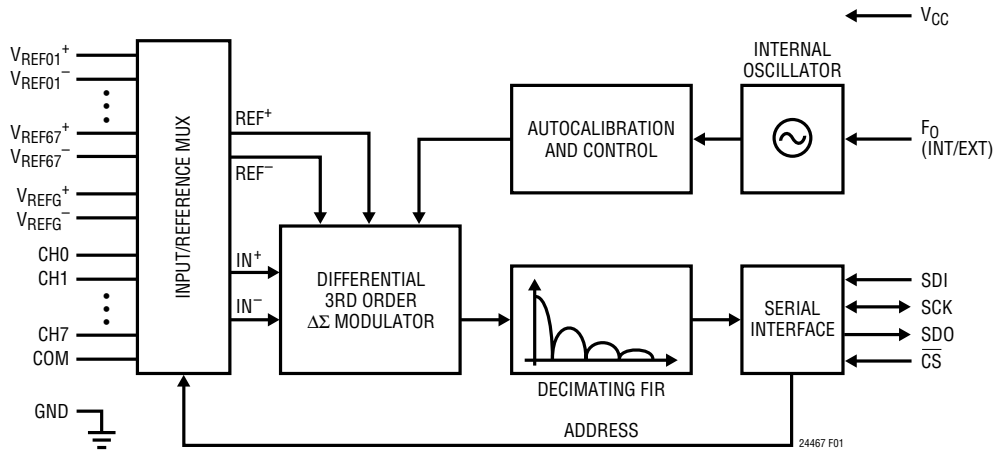
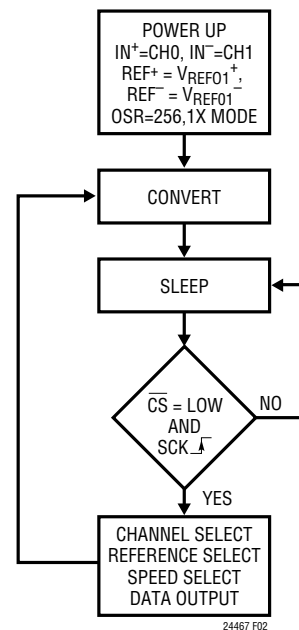

Figure 1. Functional Block Diagram
Figure 2. LTC2446/LTC2447 State Transition Diagram
The LTC2446/LTC2447 are multichannel, multireference high speed, delta-sigma analog-to-digital converters with an easy to use 3- or 4-wire serial interface (see Figure 1). Their operation is made up of three states. The converter operating cycle begins with the conversion, followed by the low power sleep state and ends with the data output/input (see Figure 2). The 4-wire interface consists of serial data input (SDI), serial data output (SDO), serial clock (SCK) and chip select (CS). The interface, timing, operation cycle and data out format is compatible with Linear's entire family of $\Delta\Sigma$ converters.